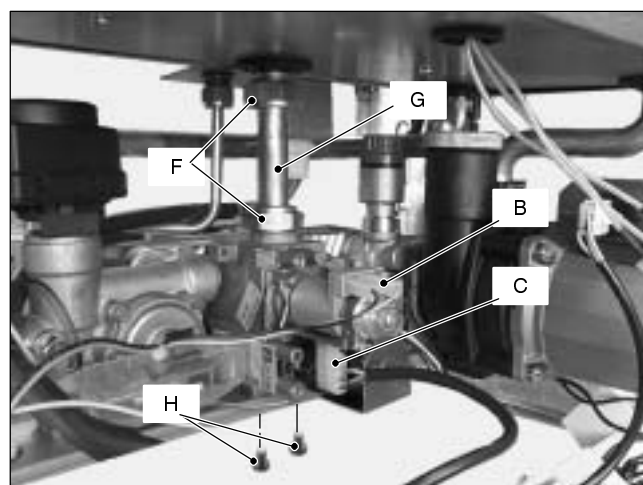

Fig. 47
- 2 Disconnect the connectors *B* (Fig. 47) from the modulating operator and measure the electrical resistance of the coil. Its electrical resistance value must be approx. $80\ \Omega^*$.
- 2 Disconnect the electrical connector *C* (Fig. 47).
- 2 Disconnect the connectors *B* and *C* (Fig. 47).